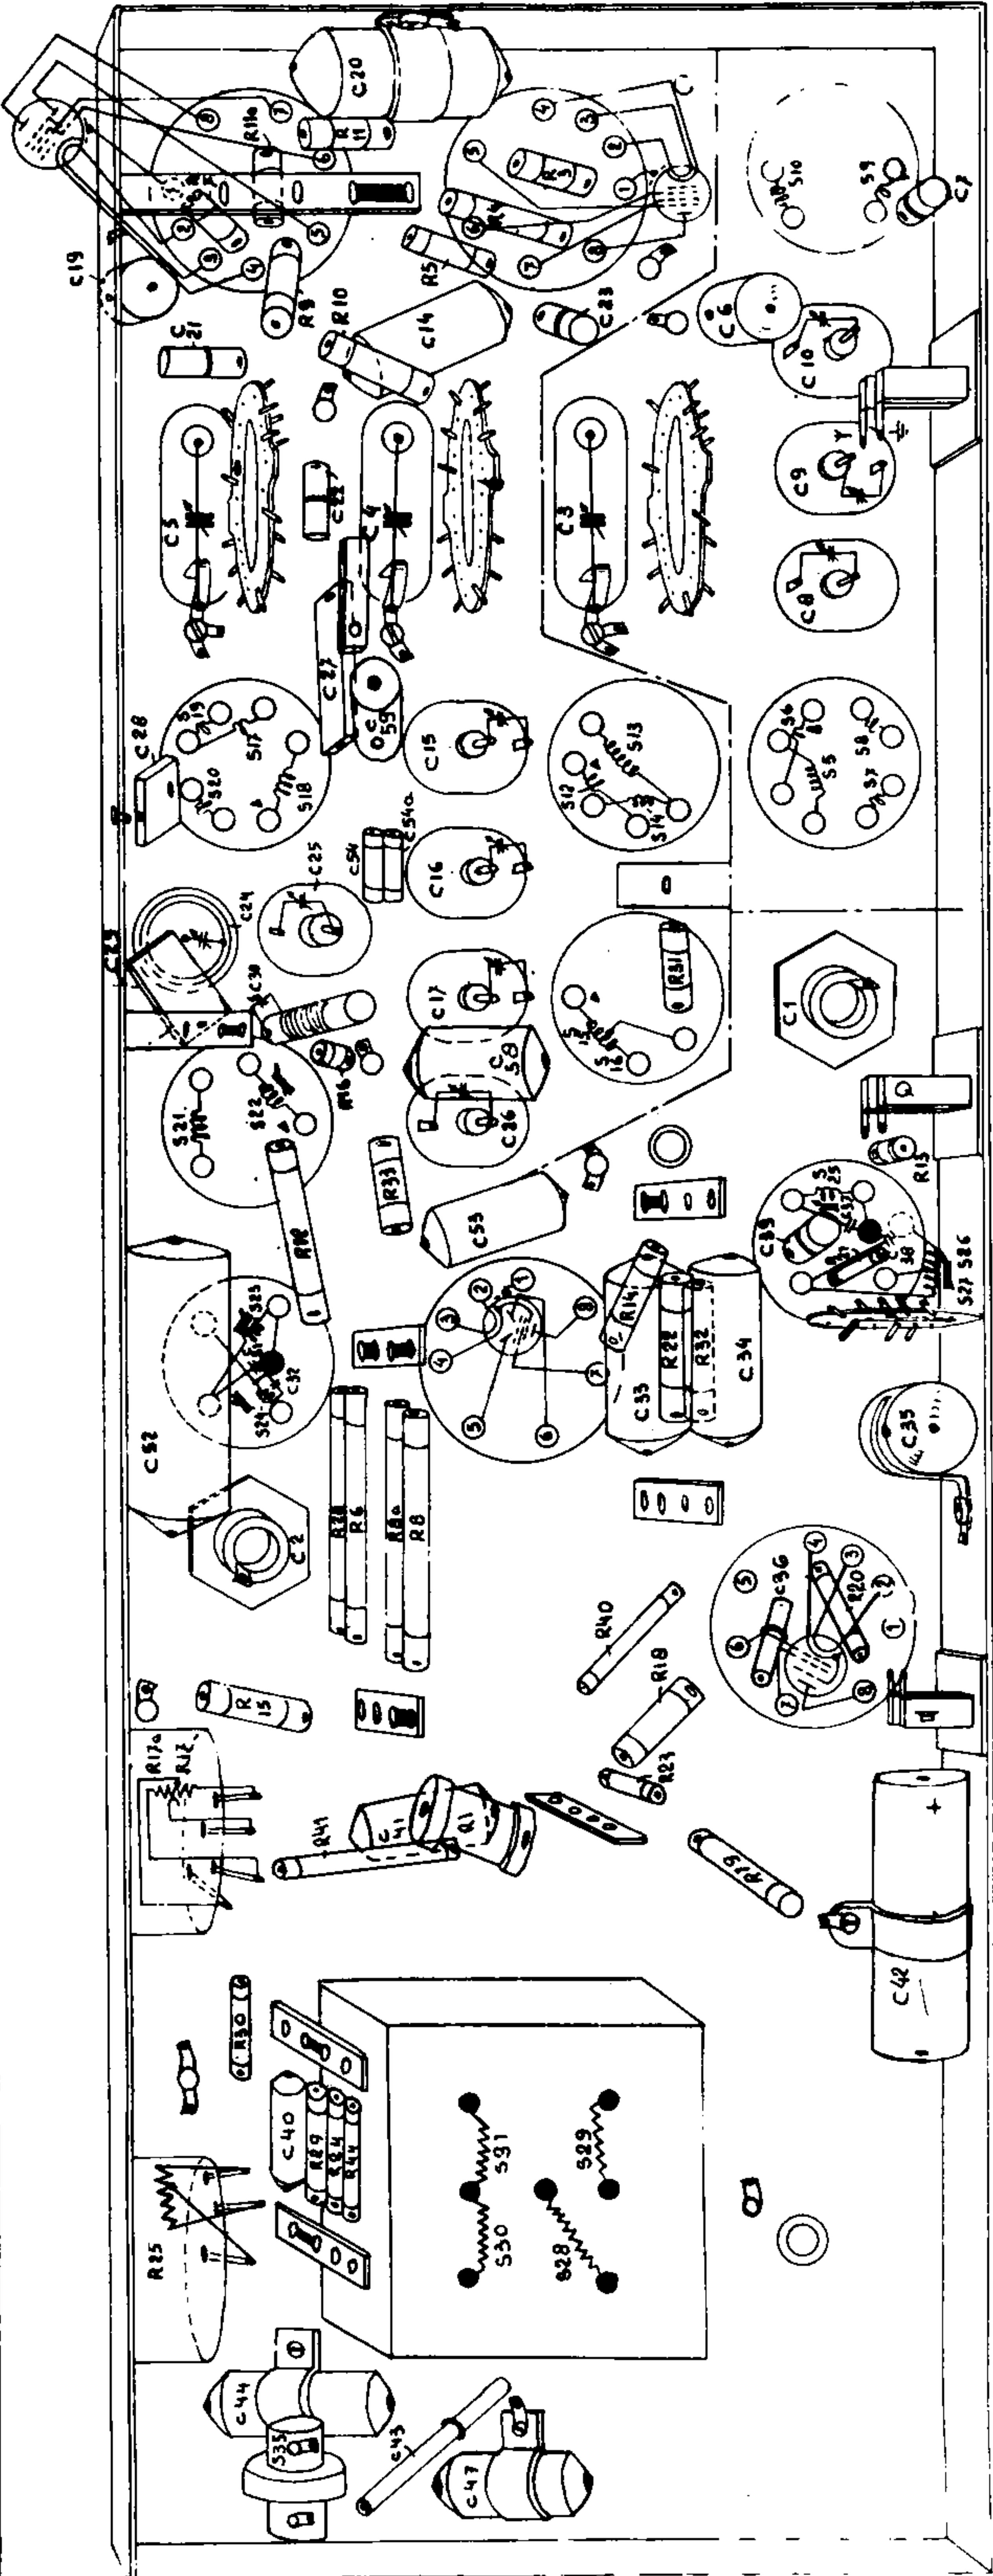

Fig 4
- It is not necessary to take the receiver out of its cabinet; all trimmers become accessible after removal of the rear panel and the base plate. The positions of the trimmers are indicated in figs. 4 and 5. As regards the necessary trimming tools vide the list of parts and tools.